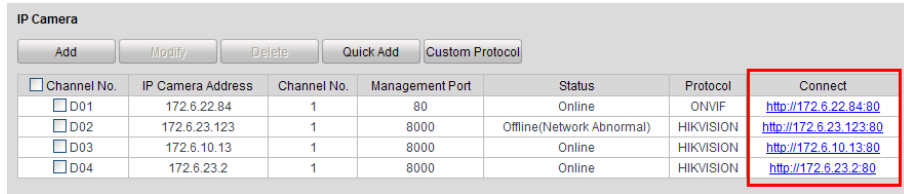

Figure 13-22 Connect to IP Camera
Step 4 Enter the IP camera management interface of NVR. The Connect column appears on the right-most side of the camera list, as shown in the Figure 13-22.